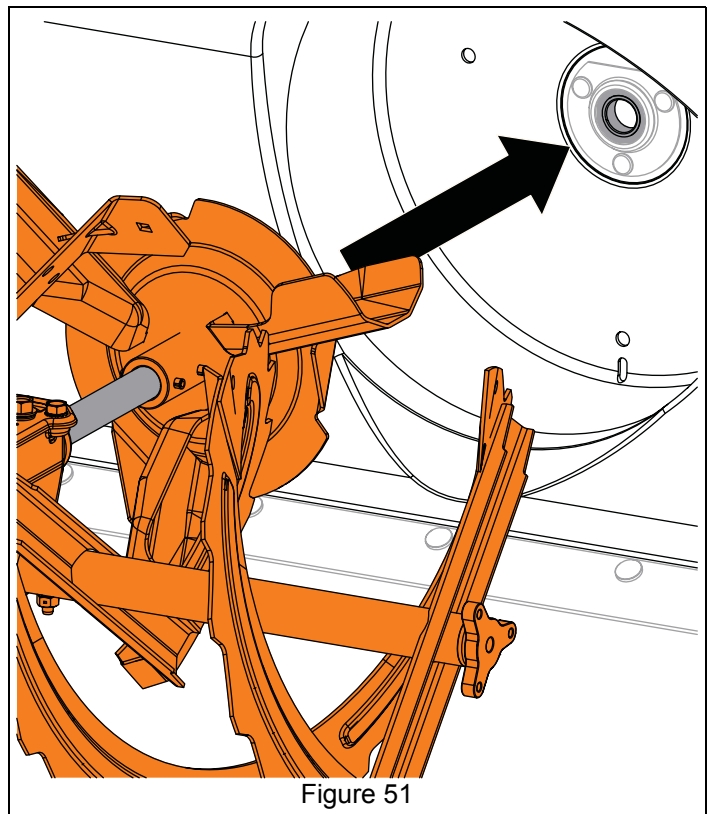

Figure 51
5. Reinstall auger assembly into housing so impeller shaft is seated in ball bearing at housing rear. See Figure 51.
4. Reinstall auger assembly into housing so impeller shaft is seated in ball bearing at housing rear. See Figure 51.